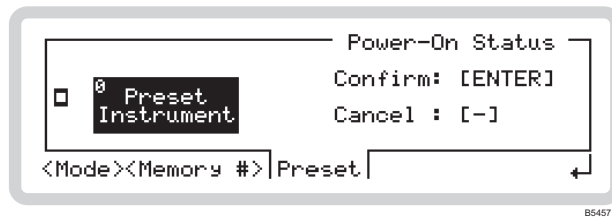

Fig. 3-68 Confirming power-on preset
Touch the soft box or key 0 to request an instrument preset (Fig. 3-68).